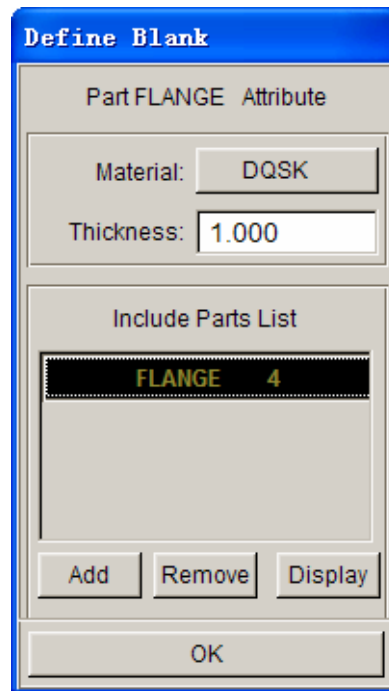

Figure 1.27: Define blank dialog box
- 6) Click OK button to return to Define Blank dialogue box. None button behind Material is already changed into the material type selected by DQSK, which means the part is already defined with material. See figure 1.27.